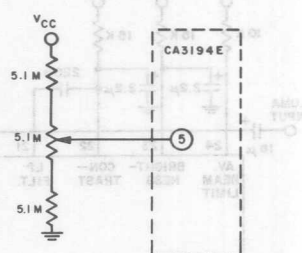

Fig. 3 - Killer-threshold level control.
*If a different value is desired, see the Threshold Adjustment Circuit of Fig. 3.